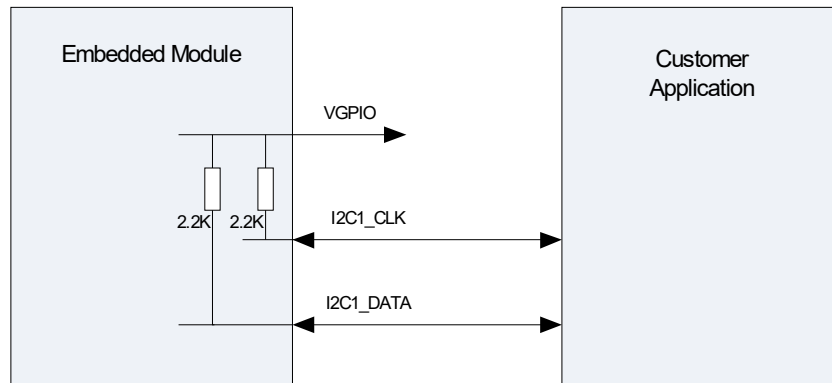

Figure 4-5: Example of I²C Bus Application
- I²C signals are implemented internally as open drain outputs (per the I²C specification) with 2.2 k Ω pull-up resistors to VGPIO (see Figure 4-5 on page 66).